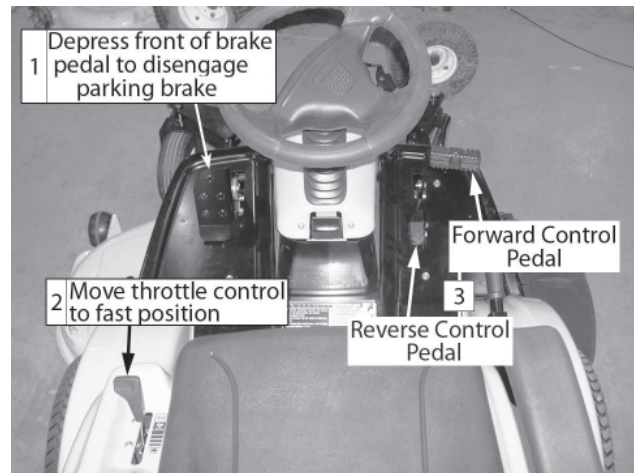

Figure 5-2
- To travel forward: Slowly depress the forward drive control pedal until the desired speed is achieved. See Figure 5-2.
- To travel in reverse: Check that the area behind is clear, then slowly depress the reverse drive control pedal until the desired speed is achieved. See Figure 5-2.